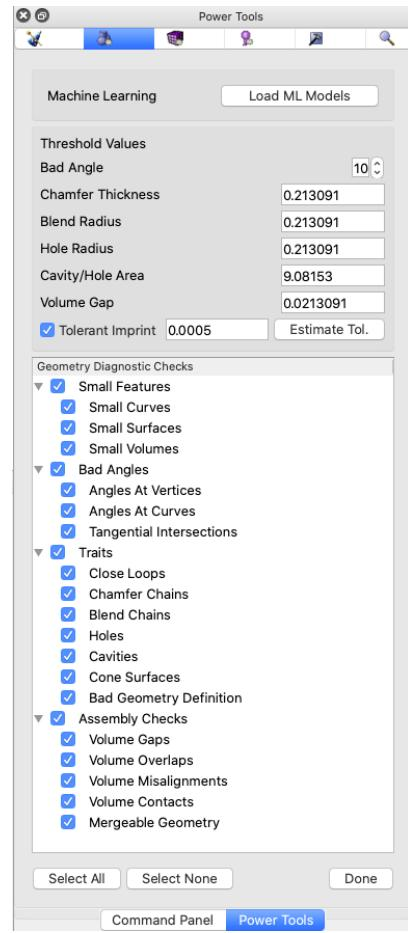

Figure 2. Geometry power tools options panel
3. **Select diagnostics to perform:** Selecting the **Options...** button will display a list of available diagnostics grouped by category, as shown in Figure 2. By default all diagnostics are selected. Some diagnostics may not apply to specific geometry, or may only need to be run once per geometry. To avoid long analysis times, select only diagnostics that are relevant for your current problem scope. Clicking on the box by each test will select or deselect it. Categories of diagnostics may also be selected or deselected in a similar manner. All diagnostics may be selected or deselected using the **Select All** and **Select None** buttons at the bottom of the panel. Threshold values used for some of the diagnostics can also be entered, including bad angle, chamfer thickness, blend or hole radius, cavity area and volume gap thresholds. Details on each of the diagnostics are described below. Select the **Done** button to return to the main Geometry power tool panel.
The geometry power tools, contain various diagnostic tests that can be run on geometry to diagnose potential problems for mesh generation and defeaturig. To display a list of tests, click on the **Options...** button. The panel shown in Figure 2. will appear. Select or deselect the desired options from the window before performing an analysis. To avoid long analysis times, select only tests that are relevant for your current problem scope. Cubit will also save the current test selections between runs. The geometry analysis tests are summarized below: